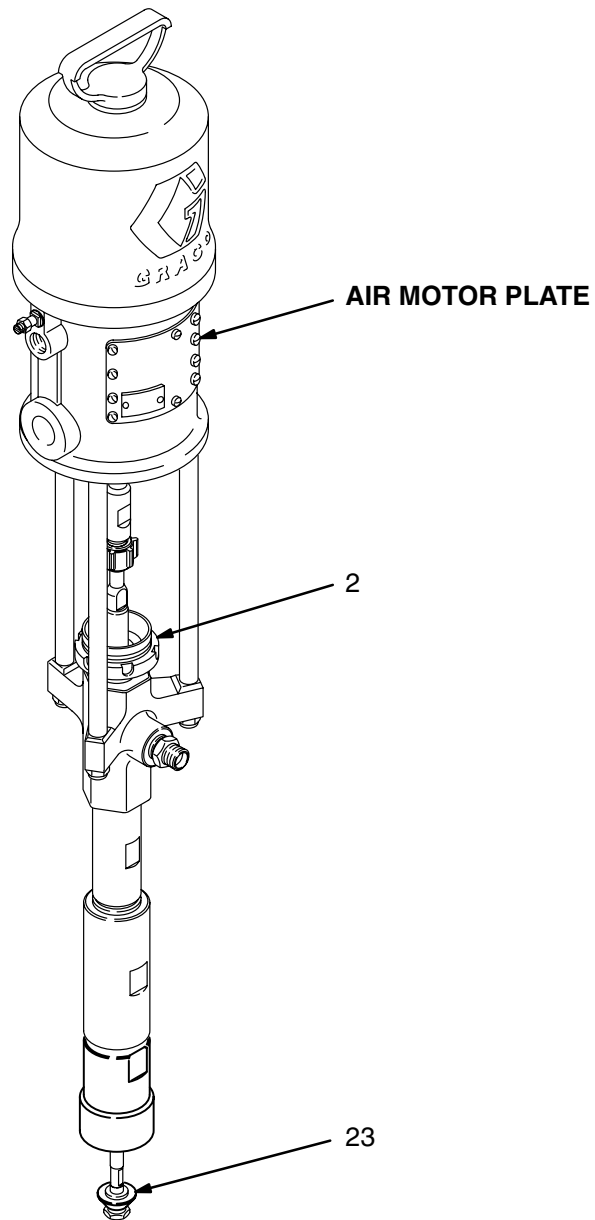

Fig 2
Fill the packing nut/wet-cup (2) 1/3 full with Graco Throat Seal Liquid (TSL) or compatible solvent. See Fig. 2. Adjust the packing nut weekly so it is just snug; do not over-tighten. Follow the **Pressure Relief Procedure Warning** above before adjusting the packing nut.
Moving parts can pinch or amputate your fingers or other body parts. When the pump is operating, the priming piston (23) (located at the pump intake) and the air motor piston (located behind the air motor plates) move. See Fig. 2. Therefore, **NEVER** operate the pump with the air motor plates removed, and keep your fingers and hands away from the priming piston.